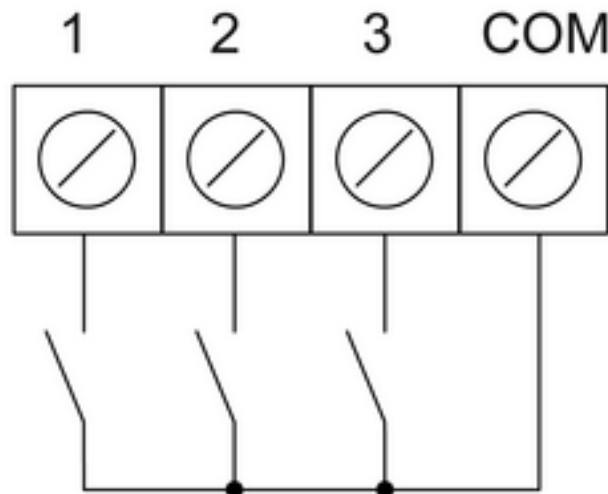

Figure 2: Connection of binary inputs
- Connect bus line with terminal to bus connection (1).
- If necessary, connect potential-free contacts to the push-button interface (5) between terminals **COM** and **1...3**(figure 2).
- Install the device (2) in the appliance box.
- Mount the frame (6), the central plate (7) and the control button (8).